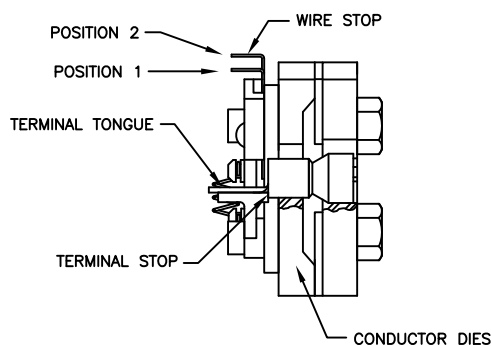

FIG. 1
- H6E Locate the terminal according to the Positioning Instructions (Fig. 1) and insert the stripped end of the wire into the terminal barrel to the wire stop. While holding the wire in place, and without changing the terminal position, crimp the terminal by closing the tool handles completely until the ratchet disengages, allowing removal of the crimped terminal.